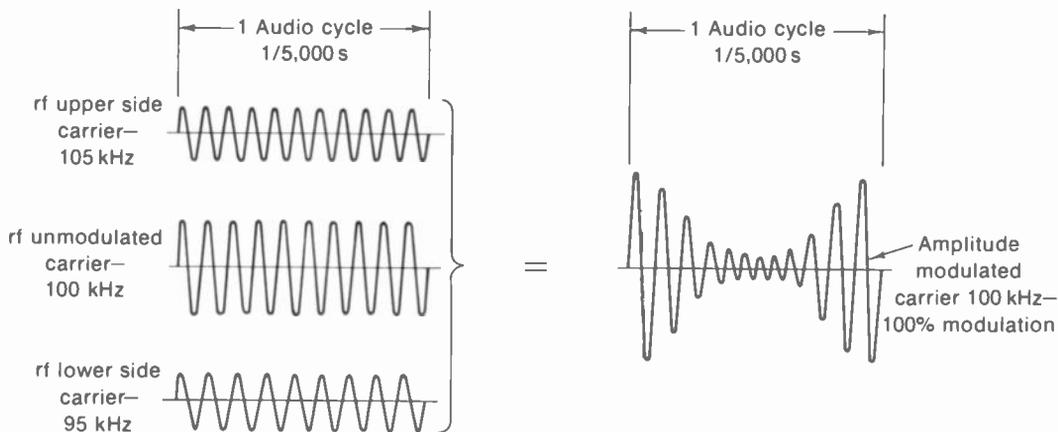

FIGURE 6-3 EQUIVALENCE OF AM WAVE TO THE CARRIER PLUS TWO RF SIDE CARRIERS PRODUCED BY MODULATION.
**Side-carrier frequencies.** Referring now to Fig. 6-3, the AM wave is shown to be equal to the sum of the unmodulated rf carrier and two side-carrier frequencies. Notice that the carrier and its equivalent side frequencies all have a constant level. Also, the amplitude of the side carriers equals one-half the unmodulated carrier level, for 100 percent modulation. Each side frequency differs from the carrier by the audio modulating frequency. The upper side frequency is 105 kHz, and the lower side frequency 95 kHz in this illustration.